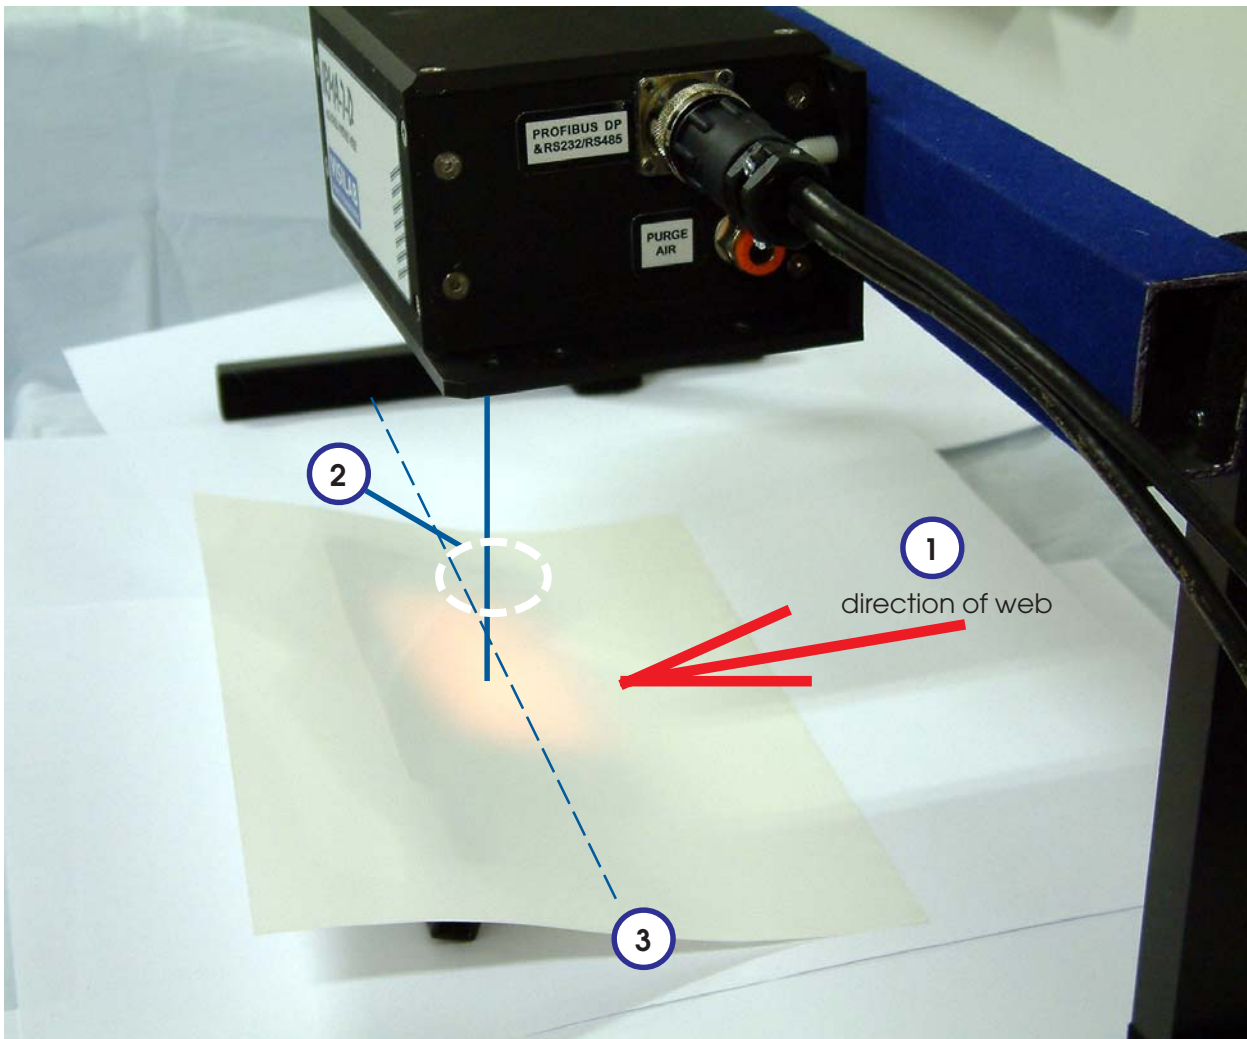

Figure 1. Measuring hot webs, definition of terms. Refer to text for the numbers.
The AK50 moisture meters have been compensated against surface temperature variations and pose no big problems as long as temperature does not vary too fast in time. The typical response time of the internal web thermometer is about 160 ms to full accuracy. For best accuracy in very high temperatures, align the IR thermometer's estimated sensing point (2) and the sensitive area of the moisture meter's spot along the same line across the web (3), not along it (1), refer to Figure 1 in the following. Small errors in temperature do not cause too big errors into moisture. However, if calibrations are made at 25C and the web is run at 125 C, a significant error (+/-0.7% in moisture) may arise if the web temperature would be measured incorrectly at 25C. Needless to say, that the IRMA-7 model DE economy model is not able to take this into account since it does not have a web thermometer and thus should not be used for measuring very hot webs at all.